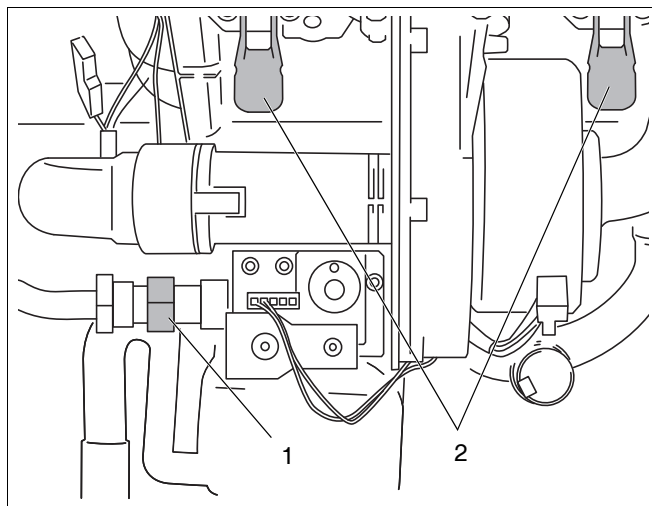
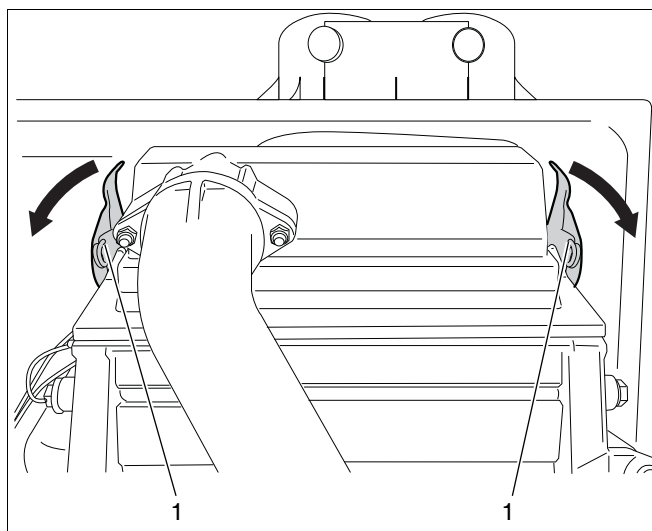

fig. 76 Loosening the gas control valve
fig. 77 Loosening the retaining clips
- Loosen the union nut of the gas control valve (see fig. 76, pos. 1).
- Loosen both sets of retaining clips (fig. 76, pos. 2 and fig. 77, pos. 1) of the burner cover and remove the burner cover with the fan unit and the gas burner fitting.